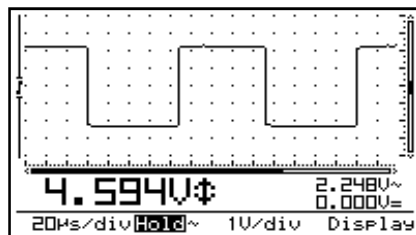

Fig 14
- A **dot grid** divides the screen into reference points. (Fig. 14)